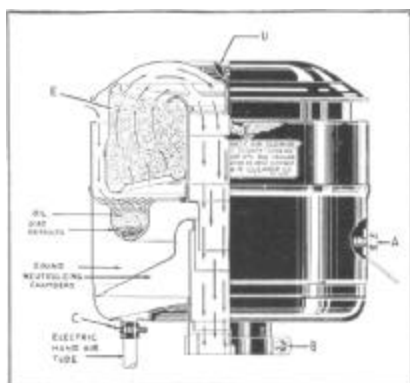

Figure 16
1. Remove air cleaner from carburetor by removing body brace bolt (A), Figure 16, and cleaner body clamp screw (B) at carburetor air horn. (On Electric Hand equipped cars also loosen Electric Hand air inlet pipe clamp screw (C).)
2. Remove wing nut (D).
3. Lift out filter unit (E) and, if necessary, wash in kerosene and blow dry.
6. Check filter unit gasket, reinstall filter unit (E) and install wing nut (D).
7. Reinstall air cleaner on carburetor, tighten carburetor air horn clamp screw (B) (also Electric Hand inlet pipe clamp screw (C) if necessary), and body brace bolt (A).
The use of a special Oil Bath Carburetor Air Cleaner, Figure 16, which is available as an option or may be purchased from Hudson dealers, will assist in large measure in protecting the carburetor and engine from premature wear.